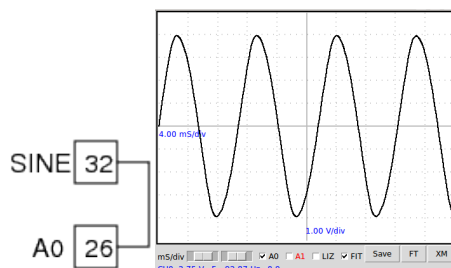

Figure 2.5: AC voltage waveform from SINE
- The waveform is shown in the figure2.5. Enable the 'FIT' option to calculate the amplitude and frequency by fitting the data with the equation $V = V_0 \sin(2\pi ft + \theta)$, where V_0 is the amplitude and f is the frequency.